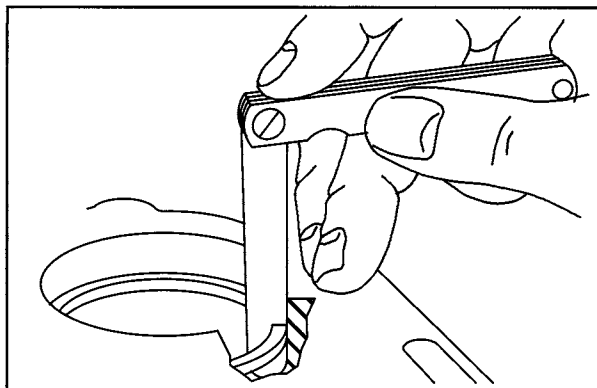

Fig. 4
2. Check ring end gap, Fig. 4. Clean carbon from end of rings and insert approximately **1" (25 mm)** into cylinder.